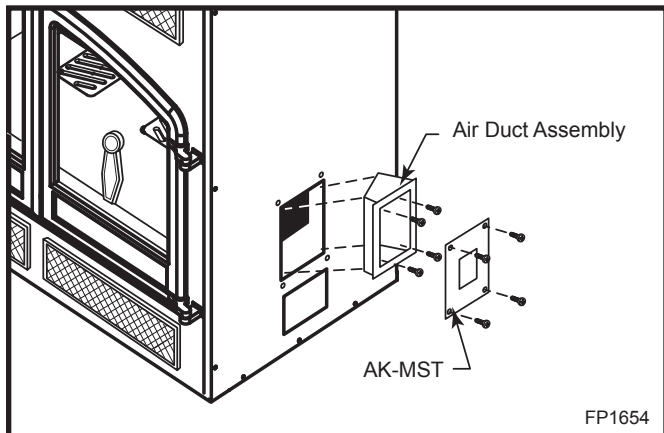

Fig. 14 Air duct assembly.
**NOTE:** Air duct assemblies must be installed in conjunction with the AK-MST or cold air will enter the home. (Fig. 14)
**NOTE:** Four (4) inch Class 1 air duct, material or metal duct (not supplied) may be used with AK-MST. (**For installation in New York State, only aluminum, non-combustible flexible or type "O" metal ducting is permissible.**)
2. Slide the two (2) air duct assemblies provided with the unit into the openings on each side of the unit. (Fig. 14)
3. Attach the air duct assemblies to the inside panel with four (4) screws removed in Step 1. (fig. 14)